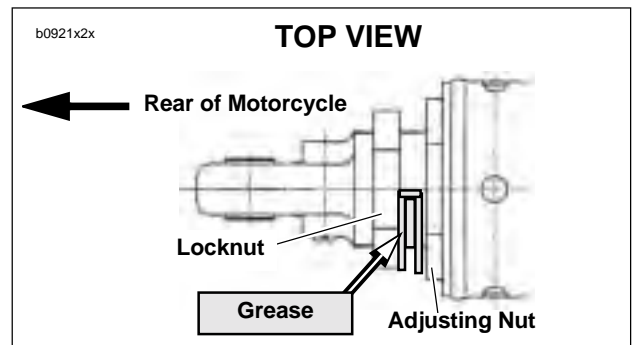

Figure 31. Applying Grease to Shock
3. See Figure 31. When preload adjustments have been made, apply wheel bearing grease halfway around the shock (180 degrees) to the mating faces of the locknut and adjuster nut and the first few threads on the aluminum body leading to the adjuster nut.